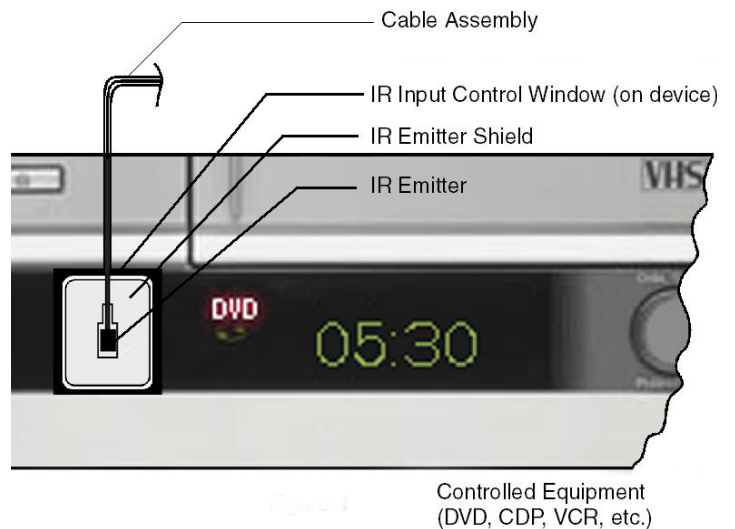

FIG. 4 CC-IRC Installation
4. Flip the shield-emitter combo back over and begin to carefully position the shield over the IR control window so that it covers the entire surface (FIG. 4). This keeps any other signal from coming through.